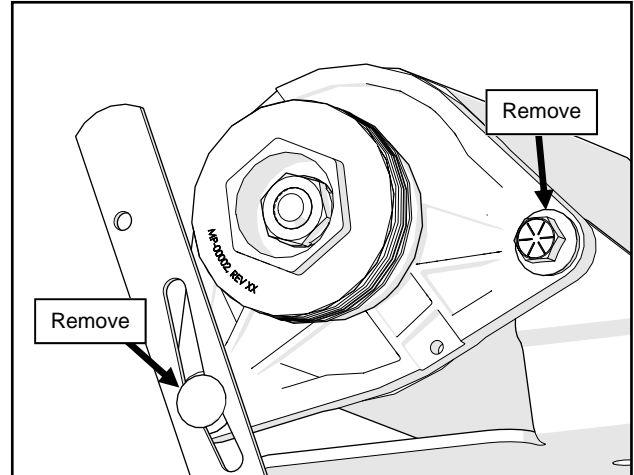

Fig. 1.5 (Remove Starter Generator Hardware)
- 1.5** Completely remove the bolts on the pulley side of the generator, leaving only one of the large bolts in place for the moment. Figure 1.5.